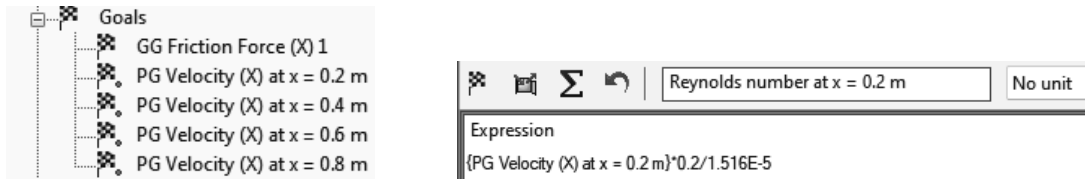

Figure 2.21f) Renaming the point goals Figure 2.21g) Entering an equation goal
Rename the goals as shown in figure 2.21f). Right click on **Goals** in the **Flow Simulation analysis tree** and select **Insert Equation Goal....** Click on **PG Velocity (X) at x = 0.2 m** goal in the **Flow Simulation analysis tree**, multiply by 0.2 (for $x = 0.2$ m) and divide by $1.516E-5$ (kinematic viscosity of air at room temperature ($\nu = 1.516E-5$ m²/s) to get an expression for the Reynolds number in the **Equation Goal** window, see figure 2.21g). Select **No unit** from the dimensionality drop down menu. Rename the equation goal to **Reynolds number at x = 0.2 m**. Exit the **Equation Goal** window. Insert three more equation goals corresponding to the Reynolds numbers at the three other x locations. For a definition of the Reynolds number, see equation (2.15).